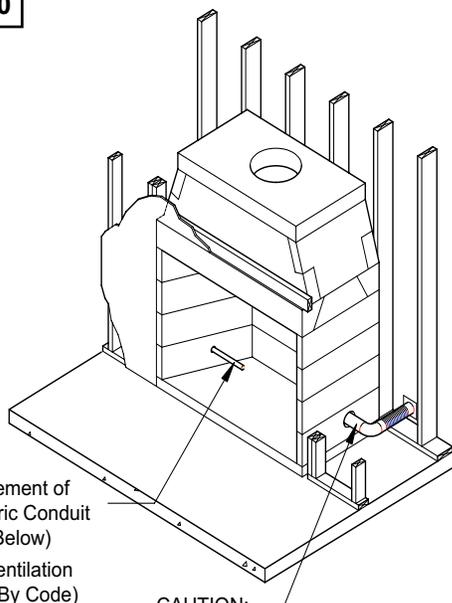
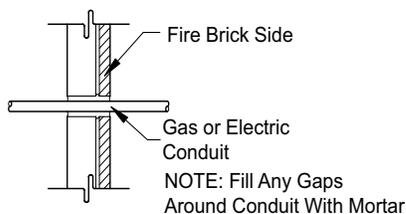

FIGURE 21
FIGURE 22
CAUTION: When using the decorative appliance, the fireplace damper must be set in the fully open position. Gas line for gas log sets used in the Isokern firebox can be routed through the side wall of the firebox by drilling an appropriately sized hole using a masonry drill bit (Figure 21).
3. **Electrical Line Feed** can be routed through the firebox side walls by drilling an appropriately sized hole using a masonry drill bit (Figure 21). Be sure to follow the gas log Appliance Manufacturer's explicit electrical line connection instructions for vented masonry fireplace installations. Gas line and electric line must be fed through separate access holes. Be sure to fill any gaps around conduit with EC mortar. (Figure 22)